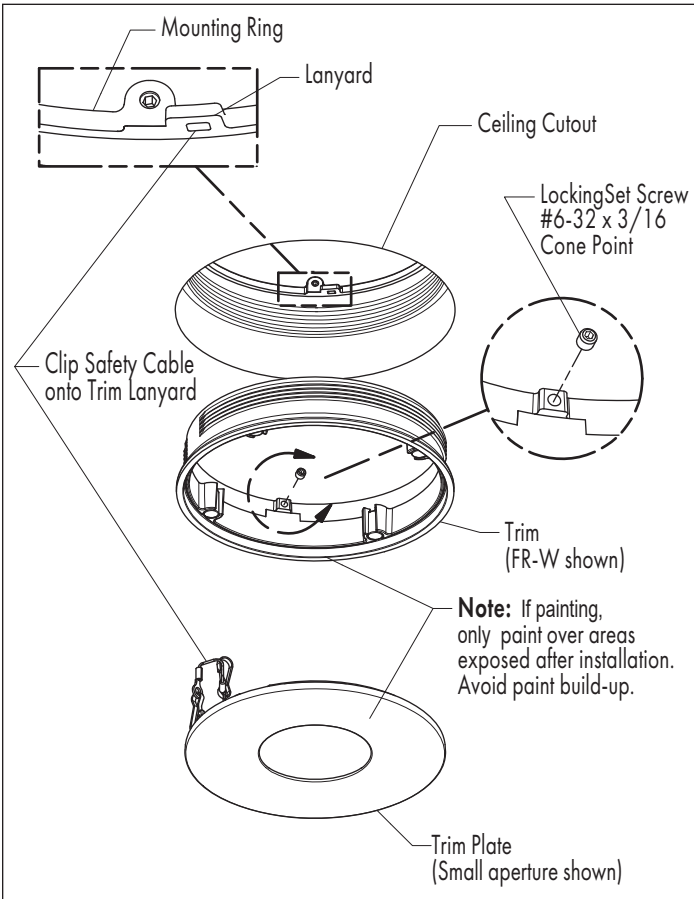
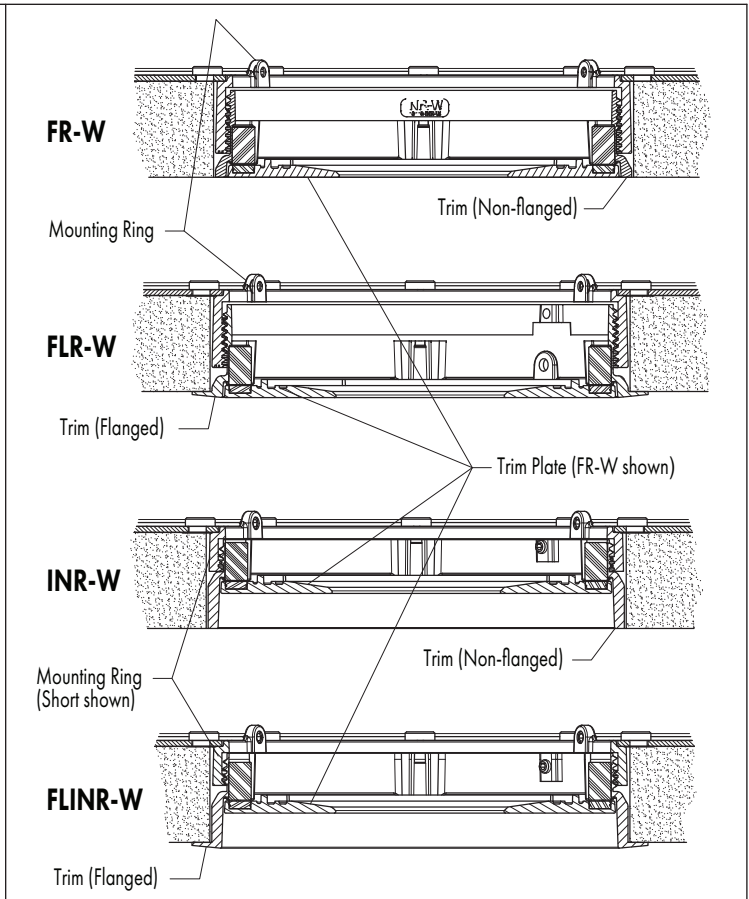

FIG 3.3 Install Trim & Trim Plate
FIG 3.5 Ceiling Section Views
- STEP 2 If required, paint Trim & Trim Plate (see note in **FIG 3.3**).
- Note:** After Trim installation (**FIG 3.3**) the Mounting Ring may need to be rotated to align the Trim - See Page 4-**FIG 4.1, 4.2 & 4.3**.
- STEP 4 Thread Trim into Mounting Ring. For FR-W & INR-W versions, adjust height to be level with ceiling. For FLR-W & FLINR-W versions, flange must seat flush to ceiling-**FIG 3.3 & FIG 3.5**.
- STEP 6 Attach Trim Plate Safety Cable to Mounting Ring-**FIG 3.3**.